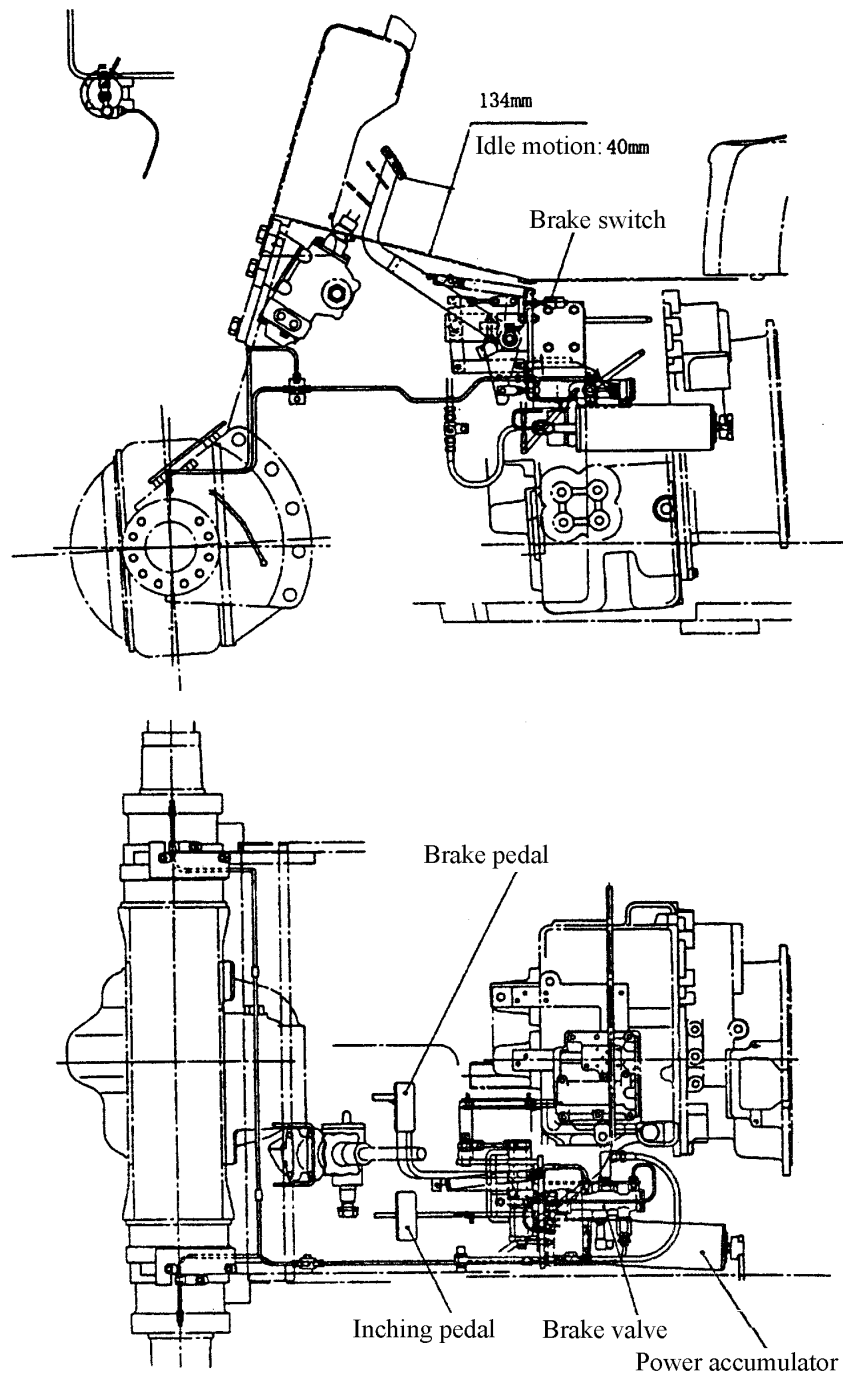

Fig. 4.2 Position of brake pedal
4.2.1 Position of brake pedal (Fig. 4.2)